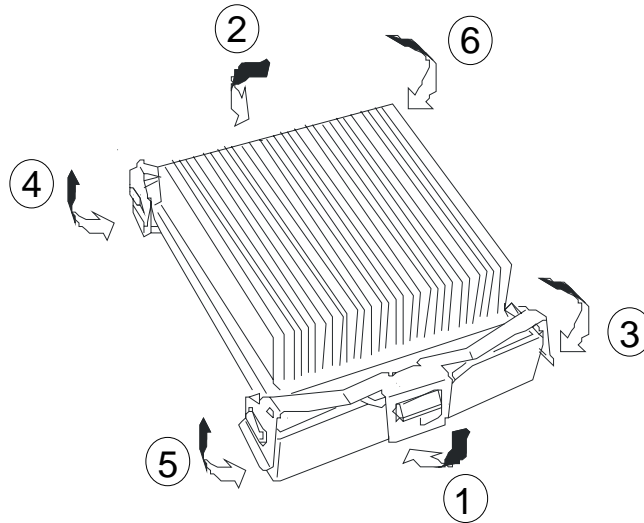

Figure 4-15. Securing the Processor Heatsink
- Place the heat sink clip on the center tab of the retention module and rotate the clip towards the heat sink to engage the center tab (1). Repeat this step with the second clip (2). See Figure 4-15.
- While ensuring the heat sink is level and secure with one hand, snap one end of the clip down over the corresponding tab on the retention module (3). Then snap the opposite corner clip (4). Snap the remaining end of the clips down over the corresponding tabs (5) (6). Be sure the clip is adequately engaged with the tab. Ensure the heat sink is absolutely level.